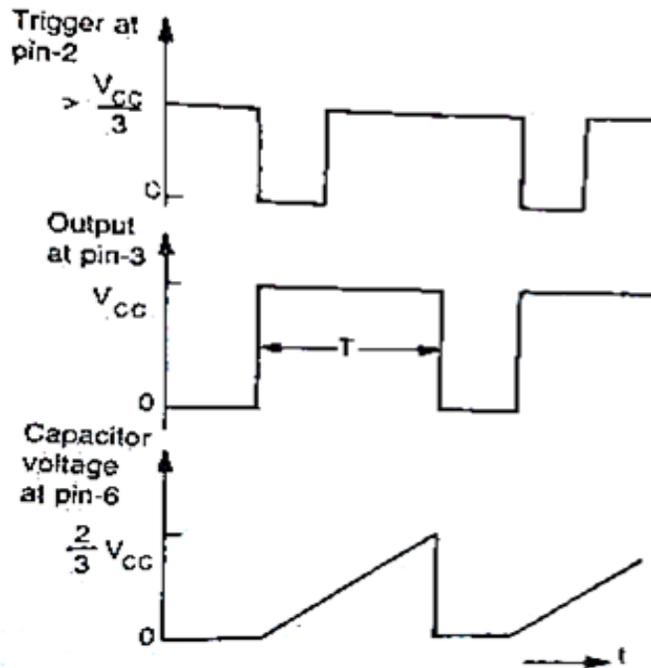

Figure 11: Linear Ramp generator output
- The capacitor voltage remains zero till another trigger is applied. The various waveforms are shown in Fig. 11.